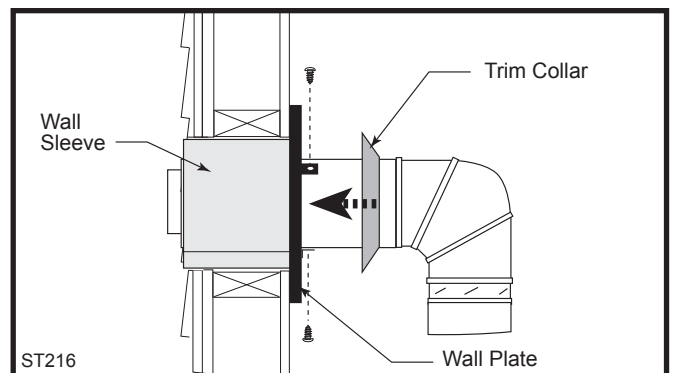

Fig. 27 Install the horizontal pipe and wall plate parts.
9. Connect the horizontal pipe to the elbow. Fasten the wall plate to the pipe with three sheet metal screws. Slide the trim collar up against the wall plate to cover the screws. (Fig. 27)